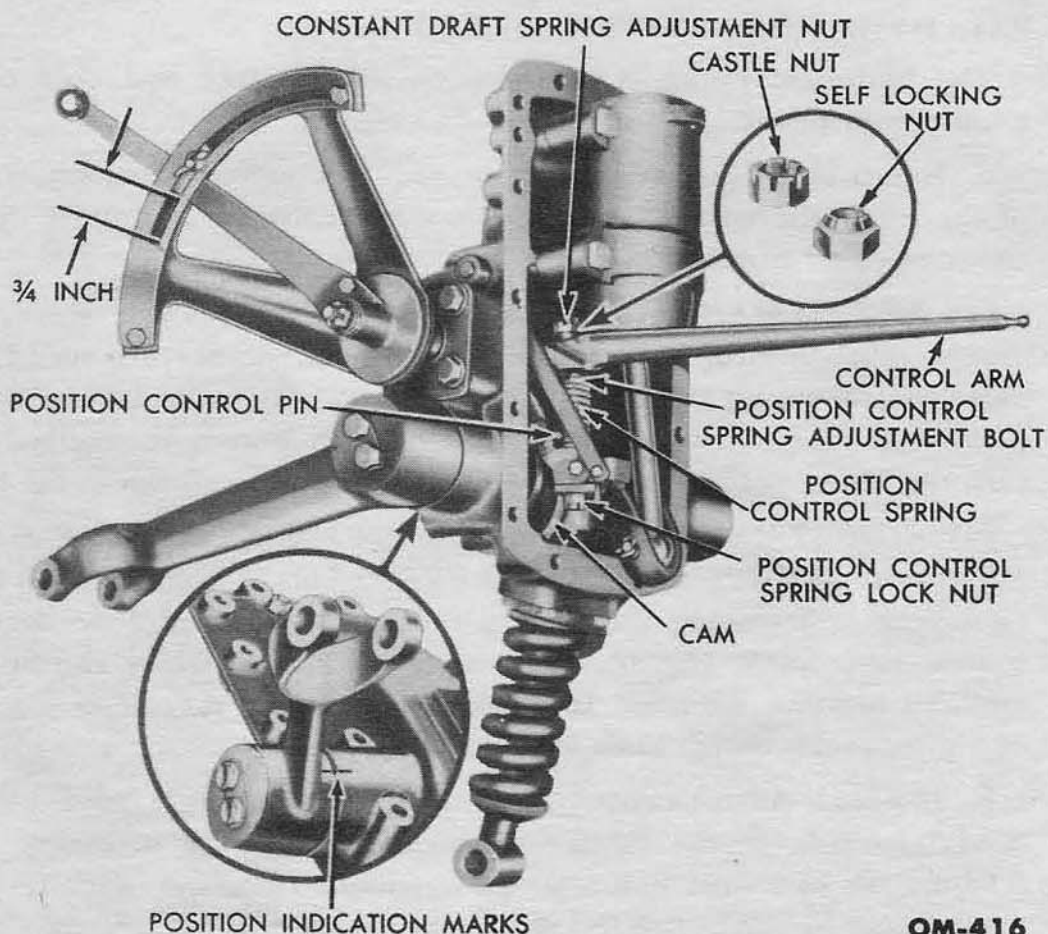
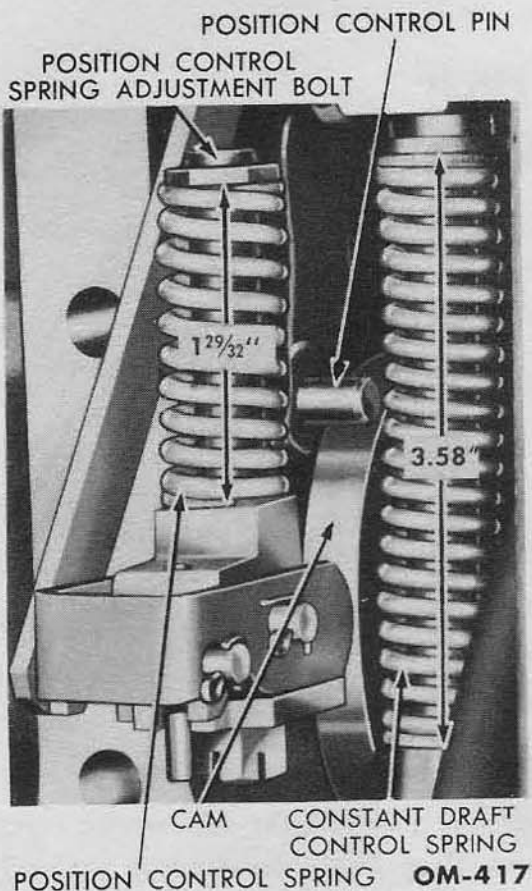

Fig. 66—Hydraulic Unit In Position for Adjustments
Fig. 67—Constant Draft Control and Piston Control Springs
(1) Support the unit in a vise in a vertical position with the control spring down as shown in fig. 66.
The lift arms must be supported in the fully raised position as indicated by the marks on the lift arms and housing (fig. 66).
(2) Examine the constant draft spring adjustment nut (fig. 67). If it is a lock nut, it should be tightened until the washer bears against the shoulder. If it is a standard castle nut with a cotter pin, the nut should be adjusted to give the correct length of the constant draft spring, then the cotter pin can be installed. The constant draft spring should be 3.58 inches long (slightly over $3\frac{9}{16}$ inches is satisfactory) as shown in fig. 67.
(4) Place the position control lever in the position shown in fig. 66. Move the hydraulic touch control lever until there is an opening of $\frac{3}{4}$ inch between the edge of the lever and the top end of the slot in the quadrant as shown in fig. 66.
(5) Make sure that the control arm moves freely and is held in a horizontal position by its own weight as shown in fig. 66. Loosen the position control lock nut, and adjust the length of the position control spring by turning the position control spring adjustment bolt (fig. 66). Adjust the position control spring length until the position control pin contacts the cam, and the position control spring adjustment bolt contacts the control arm, as shown in fig. 66. It will probably be necessary to hold the position control pin in contact with the cam. The position control spring length should be $1\frac{29}{32}$ inches plus or minus $\frac{1}{16}$ inch after the adjustment has been made (fig. 67). Tighten the position control spring lock nut after completing the adjustment.